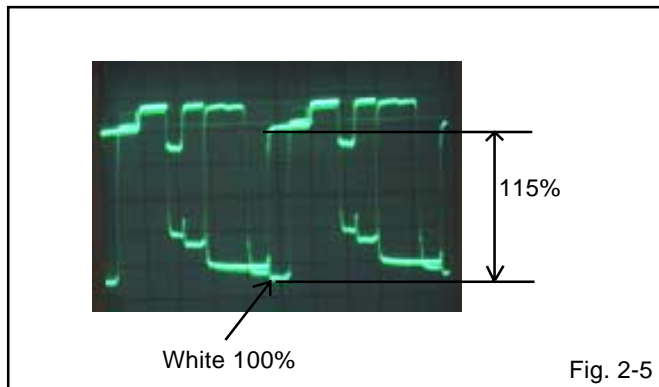

Fig. 2-5
7. Press the VOL. UP/DOWN button on the remote control until the red color level is adjusted to  $110 \pm 10\%$  of the white level. **(Refer to Fig. 2-5)**